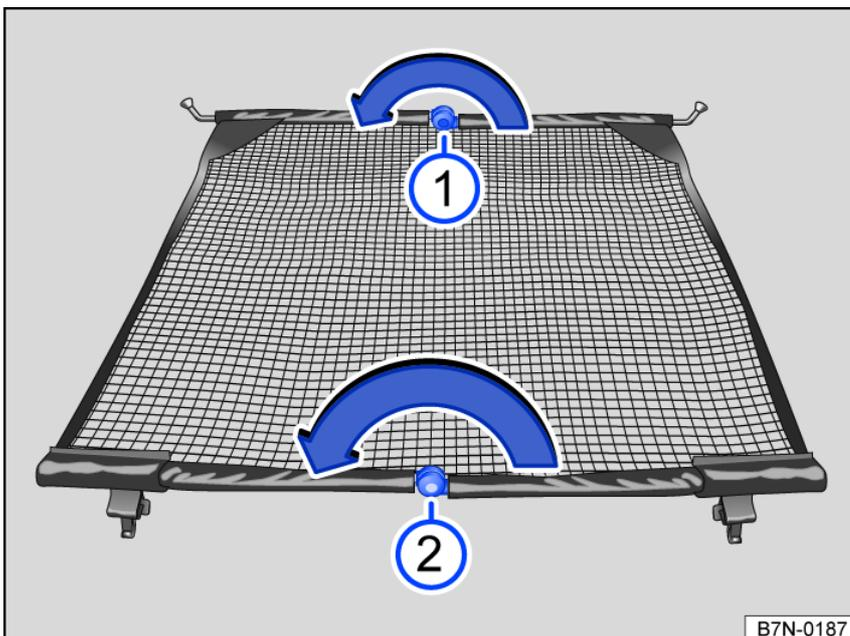

Fig. 155 Folding in the net partition.
- Press the release button and, with the release button held down, fold in the crossbar in the direction of the arrow *fig. 155* ①.
- Repeat the process with the other release button ②.